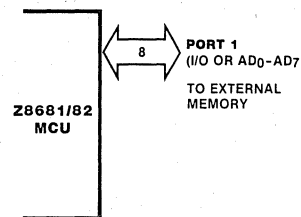

Figure 8. Port 1
**Port 1** is a dedicated Z-BUS compatible memory interface. The operations of Port 1 are supported by the Address Strobe ( $\overline{AS}$ ) and Data Strobe ( $\overline{DS}$ ) lines, and by the Read/Write ( $R/\overline{W}$ ) and Data Memory ( $\overline{DM}$ ) control lines. The low-order program and data memory addresses ( $A_0$ - $A_7$ ) are output through Port 1 (Figure 8) and are multiplexed with data in/out ( $D_0$ - $D_7$ ). Instruction fetch and data memory read/write operations are done through this port.